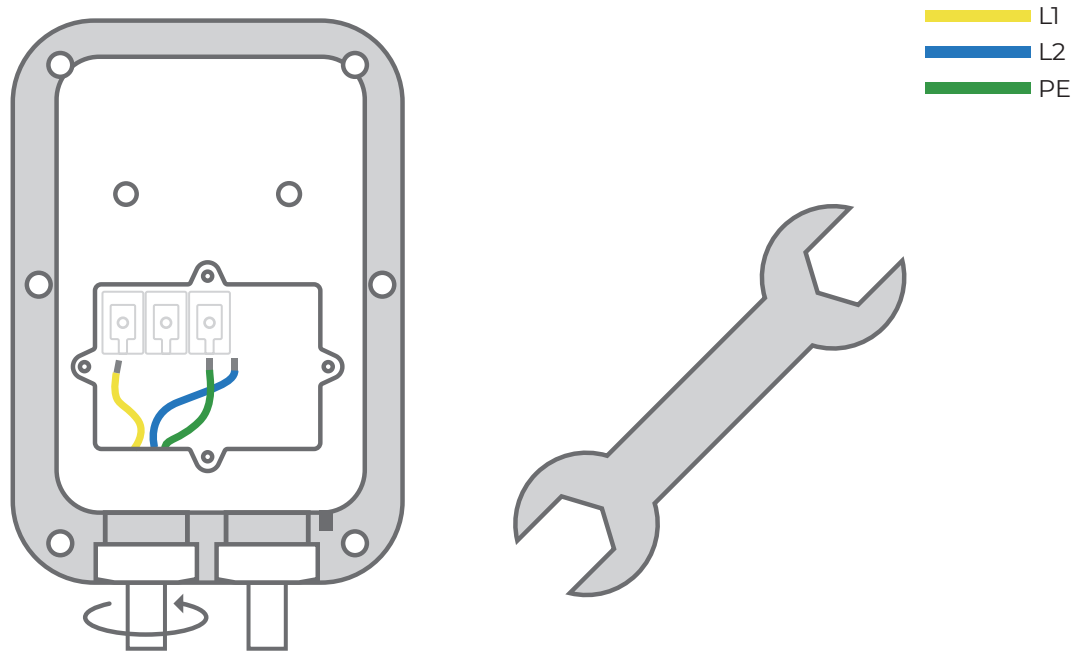

Fig. 5.6.3
3. Unscrew the bolts at the bottom of the charging station (See Fig. 5.6.3). You can use a large wrench if needed.